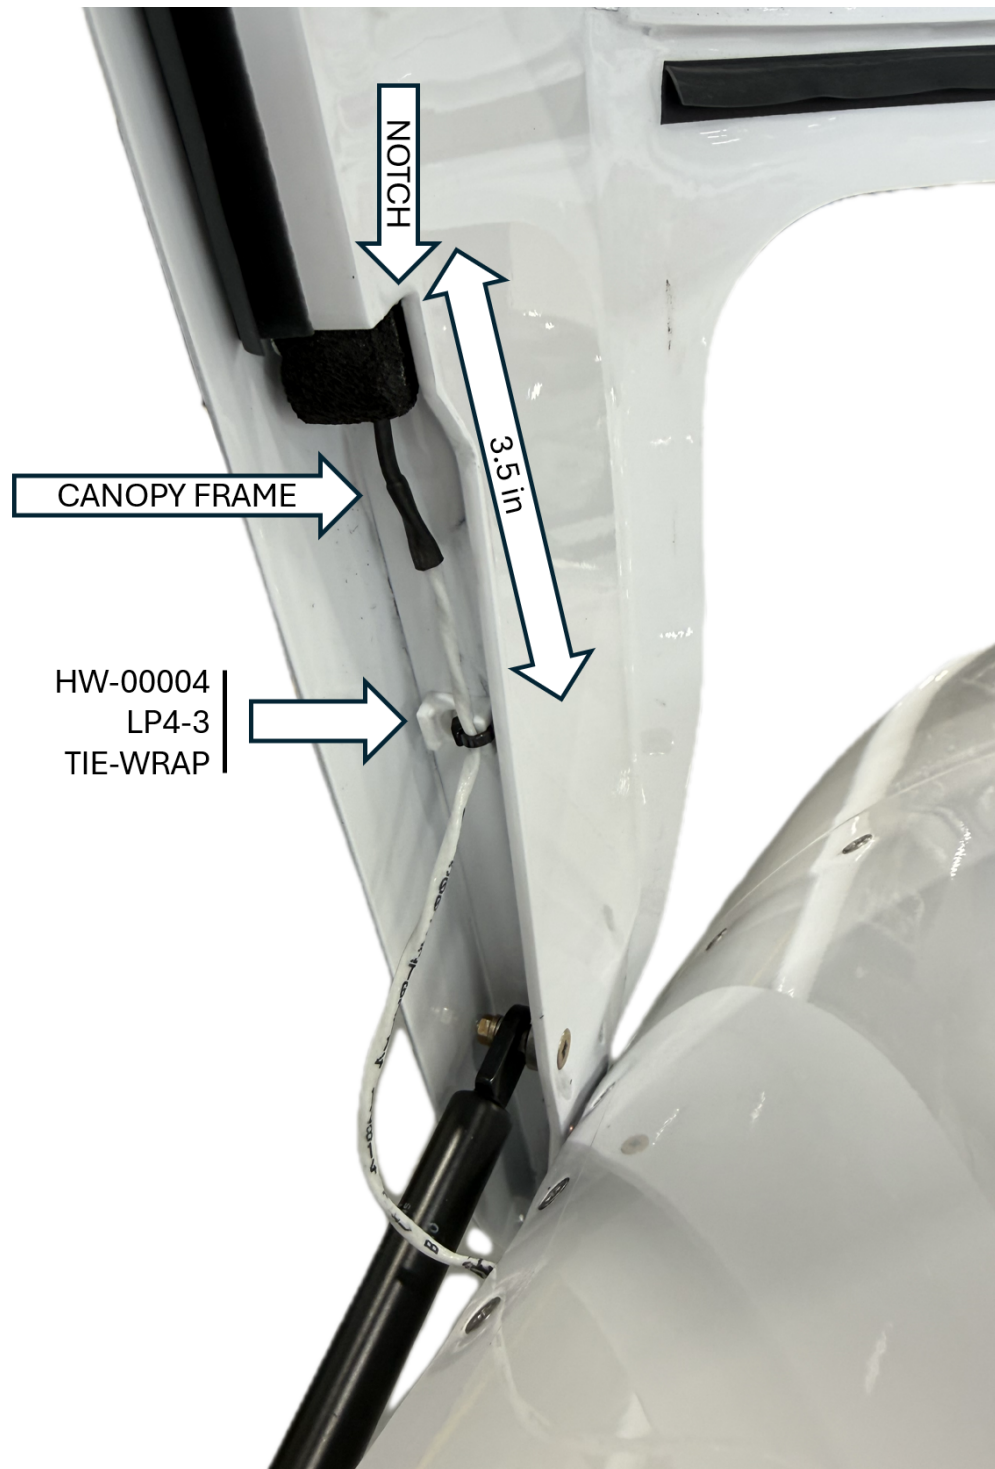

FIGURE 2: HW-00004 INSTALLLATION
Step 5: Place the HW-00004 on the lower face of the canopy frame approximately 3.25 inches forward of the notch in the canopy frame as shown in Figure 2. This will be next to a short stitch weld in the canopy frame. Bias HW-00004 inboard as far as possible while leaving room for a tie-wrap to pass through HW-00004 and the canopy frame.
Step 7: Orient HW-00004 on the canopy frame as shown in Figure 2.
Rivet HW-00004 to the canopy frame using the hardware called out in Figure 2.